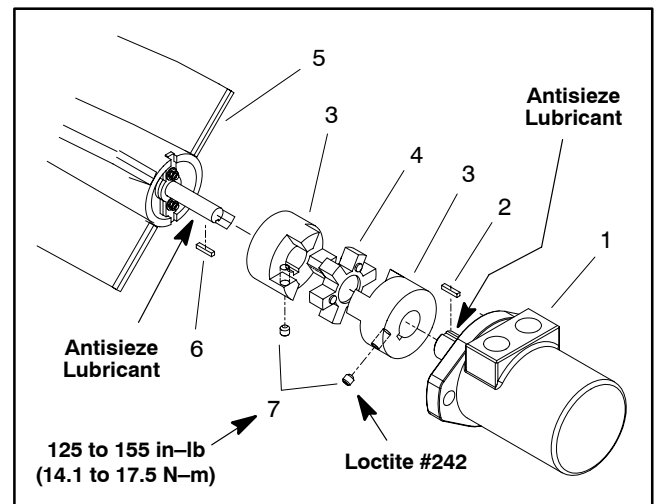

Figure 7
9. Install hydraulic brush motor to brush housing (see Hydraulic Brush Motor Installation in the Service and Repairs section of Chapter 3 – Hydraulic System). Make sure that coupling jaws have a gap between coupler jaw valleys from .830" to .930" (21.1 to 23.6 mm). Apply Loctite #242 (or equivalent) to threads of coupling set screws. Secure coupling jaws to motor shaft and brush shaft by torquing set screws from 125 to 155 in-lb (14.1 to 17.5 N-m) (Fig. 7).